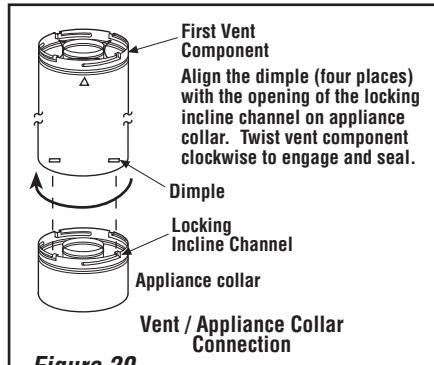

Figure 20
B. Attach vent components to appliance - **Secure Vent®** SV4.5 direct vent system components are unitized concentric pipe components featuring positive twist lock connections (see **Figures 20 and 21**).
To attach a vent component to the appliance collar, align the dimpled end over the collar, adjusting the radial alignment until the four locking dimples are aligned with the inlet of the four inclined channels on the collar (refer to **Figure 20**). Push the vent component against the collar until it fully engages, then twist the component clockwise, running the dimples down and along the incline channels until they seat at the end of the channels. The unitized design of the **Secure Vent** components will engage and seal both the inner and outer pipe without the need for sealant or screws. If desired a #6 x 1/2" screw may be used at the joint, but it is not required as the pipe will securely lock when twisted.